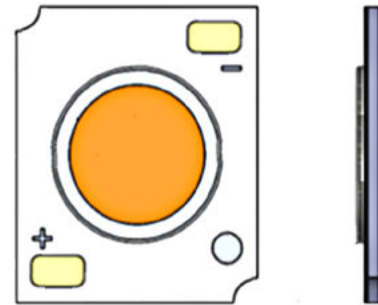

Figure 3: Diagram of a CoB LED.
3. Chip-on-board (CoB) (Figure 3)